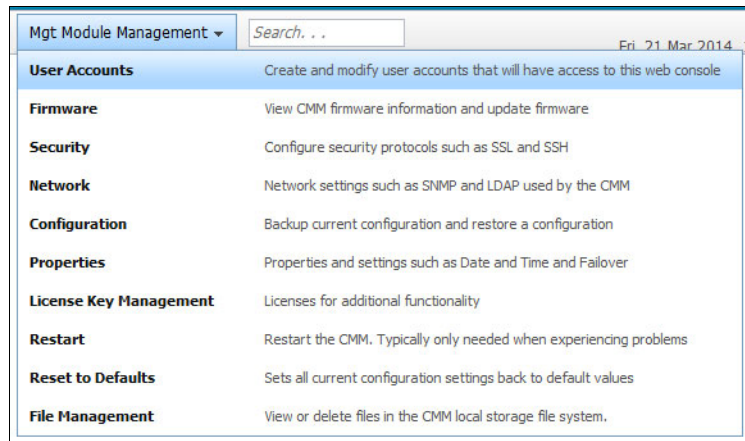

Figure 7-11 Management module management drop-down menu
- Management Module Management, shown in Figure 7-11.